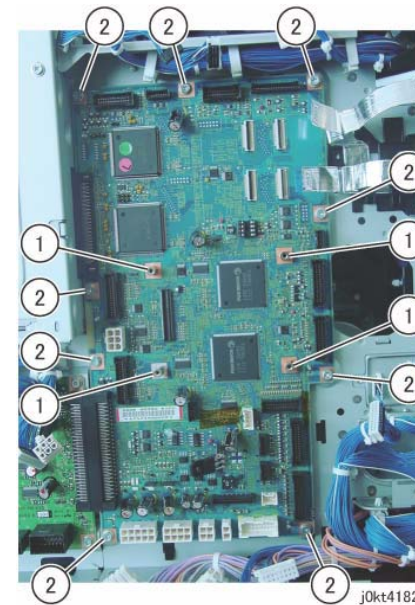

Figure 4 Remove the screws
11. Remove the screws (x13) that secure the Motor Driver Main PWB. (Figure 4)